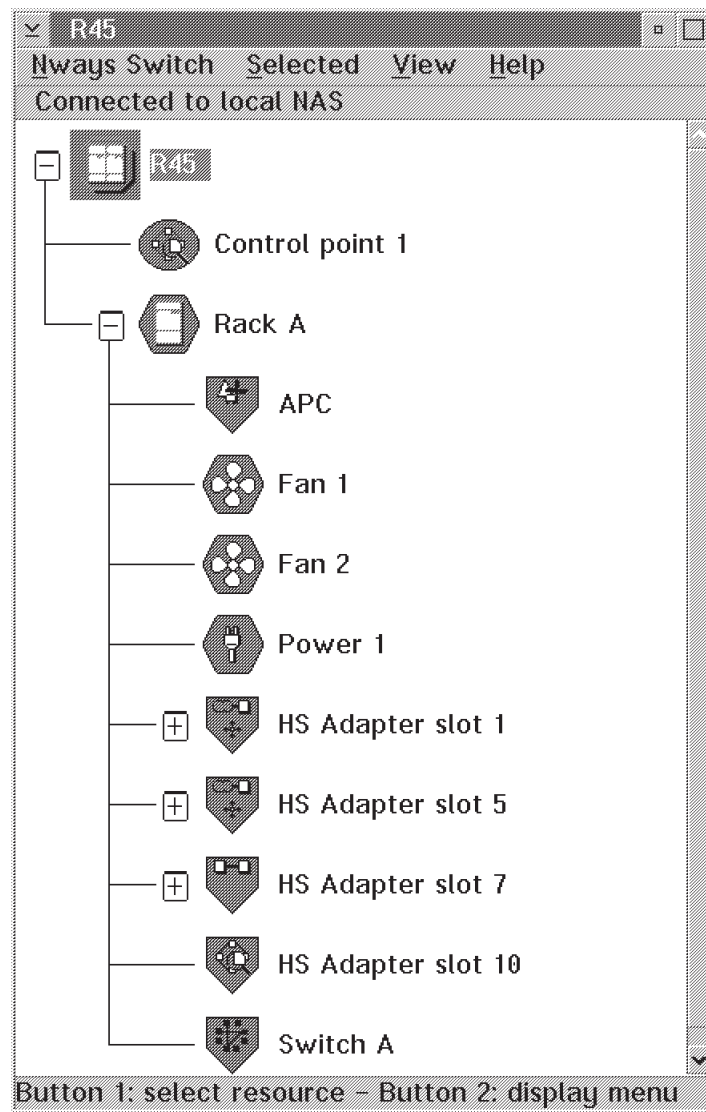

Figure 4-1. Nways Switch Resource Control Window
- From the window displayed using the icon or option get the **Nways Switch Resource Control** window with all the resource icon displayed (see Figure 4-1).
- From the window displayed using the icon or option get the **Nways Switch Resource Control** window with all the resource icon displayed (see Figure 4-1 on page 4-3).